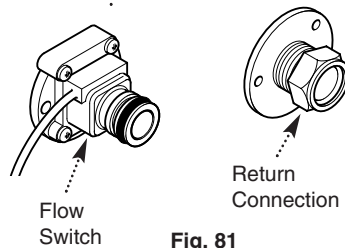

Fig. 81
3. Undo the screws securing the flow switch and return connections. Remove the flow switch and return connection (Fig. 81).